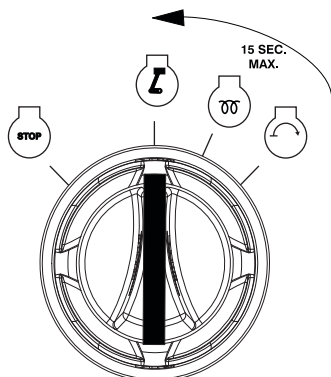

Figure 3-7. Release Key
- See **Figure 3-7**. Release the key; it will move to RUN.